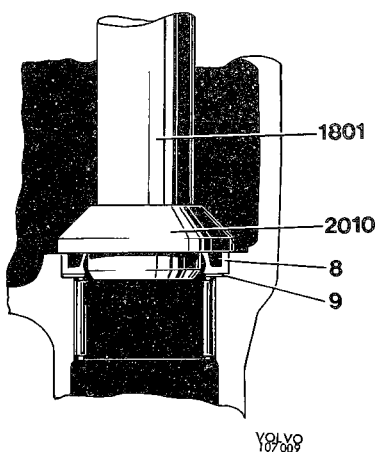

Fig. 6-89. Installing sealing ring
9. Clamp the housing (4) with the neck facing downwards. Place the washer (8) in the housing. Fit the sealing ring (9) with the sealing lip facing upwards. Use tools 2010 and 1801, see Fig. 6-89.